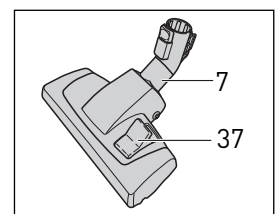

Figure 18
Kombi Nozzle - Figure 18
The Kombi nozzle (7) is adjustable for carpet or hard floors. To set for carpet, push the small end of the toggle button (37) downward until it clicks into place. The hard floor dusting brush will raise up allowing the head to move over the carpet. To set for hard floors, push the large end of the toggle button (37) downward until it clicks into place. The brush will lower to gently sweep your floors. **The toggle button in Figure 18 is set in the position for hard floors.** The brush should be cleaned regularly. Remove the Kombi nozzle from the telescopic tube to clean. Fibers and hair can be pulled out of the bristles manually, or vacuum the bristles with the telescopic tube. The brush strip is removable for cleaning and replacement.